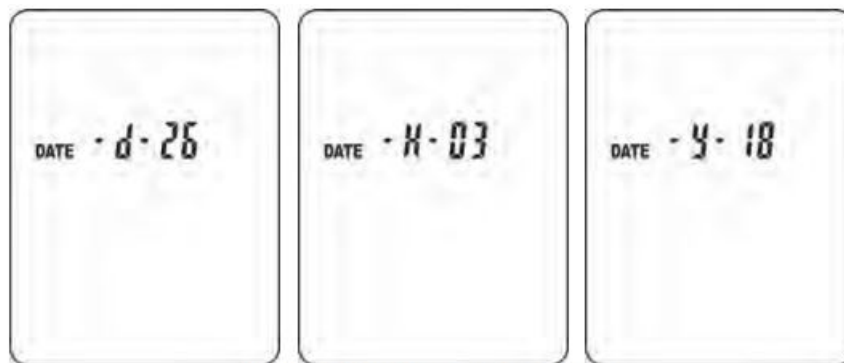

Fig. 4: System date setting
6. Press key SET to proceed and set the Date. The screen in Fig. 4 – left side appears on the display.
7. Press key LEV to set the Day and key SET to proceed (see Fig. 4 – middle).
8. Press key LEV to set the Month and key SET to proceed (see Fig. 4 – right side).